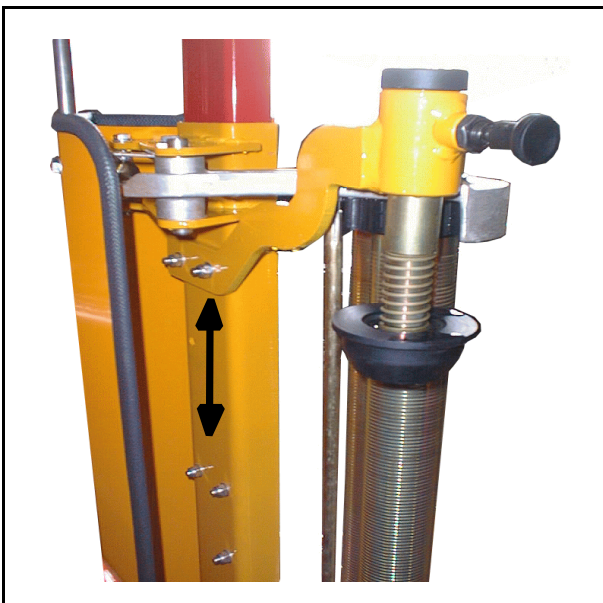

Fig. 4-3
- 4.2 Place a reel of film on to the prestretcher's holding axle and put on the springloaded lock. On delivery the prestretcher is set for the 750mm film, the top bracket may be moved down enabling the use of the 500mm film. (See fig. 4-3).